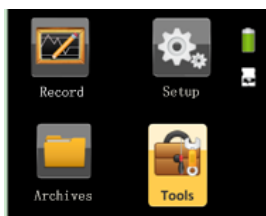

Figure 2-7 Main device interface
- ① After an AA battery is installed, long-press the **On-Off /**
**OK Button** ①/☑ to turn on the device, and then press the **Shift Button** ☺ to select the “Tools” icon(Figure 2-7).